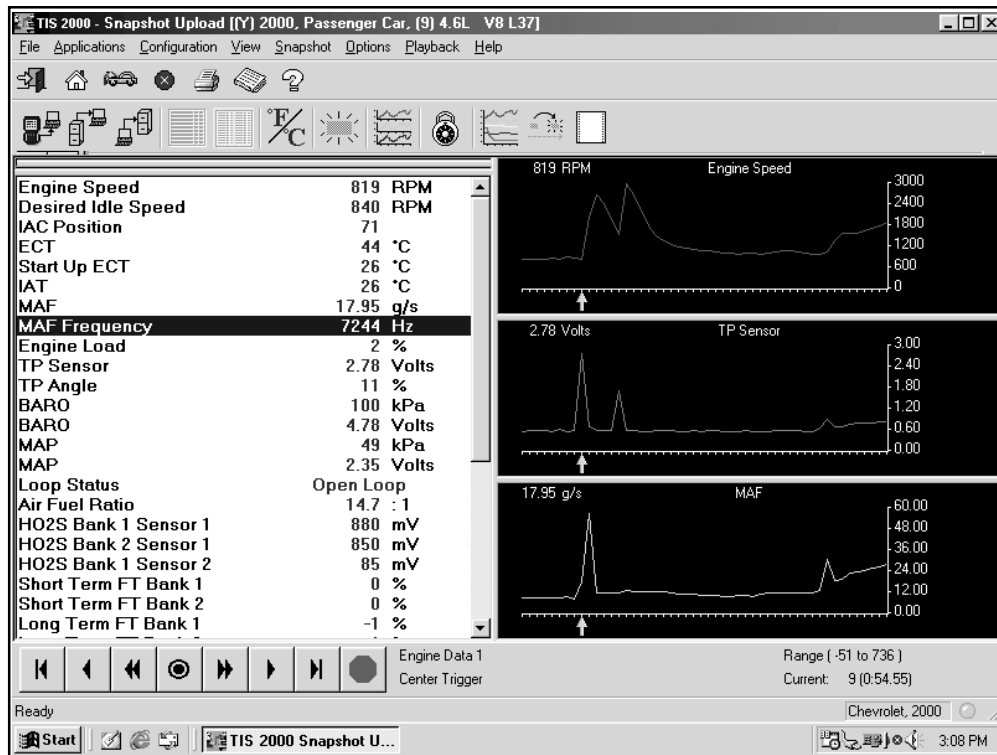

Figure I-74, Display Graph Screen
5. The screen changes to display the chosen parameters in graph form (Figure I-74).
- Click and drag on the arrow along the bottom of each graph (Figure I-74) to move through the graph. This arrow represents the current frame being viewed. It is useful for pinpointing precisely when a parameter change indicates a fault.